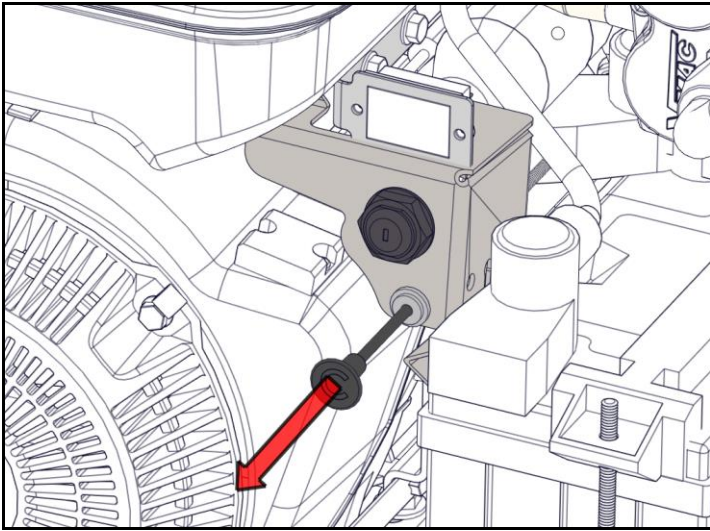

Figure 24 - Choke
- 2) Pull the choke to the on position (Figure 24).